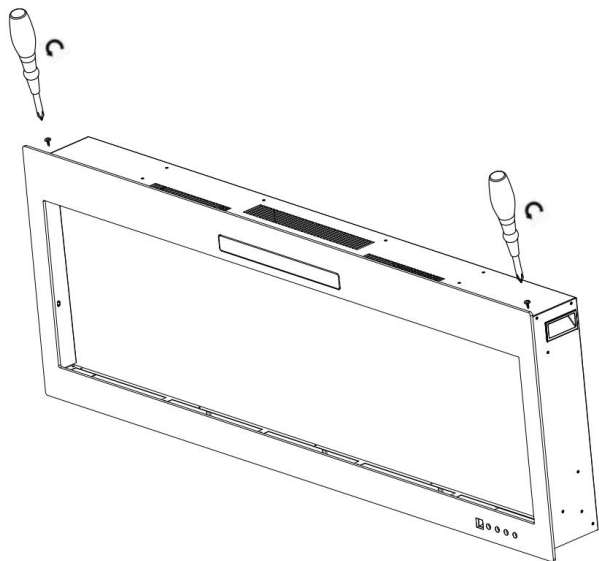

Fig. 1-1
**A.** Take off the screws on both side.(Fig. 1-1 )